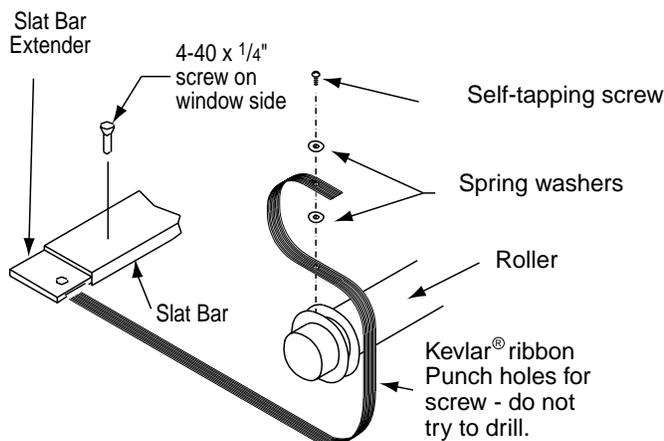

Figure 13
- ⑤ Remove the screw (with washer) in each pulley and re-install through hole in Kevlar® ribbon (see Fig. 13). Be careful not to "strip" the screw hole.
- ⑥ Remove wedge from spring roller.